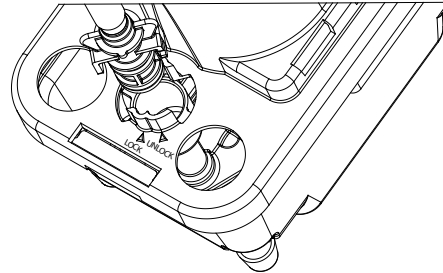

Fig. 2 (EN/FR/ES)
- Fully insert the enclosed check valve into the discharge line, ensuring that the O-ring and discharge line are free of debris (Fig. 2).